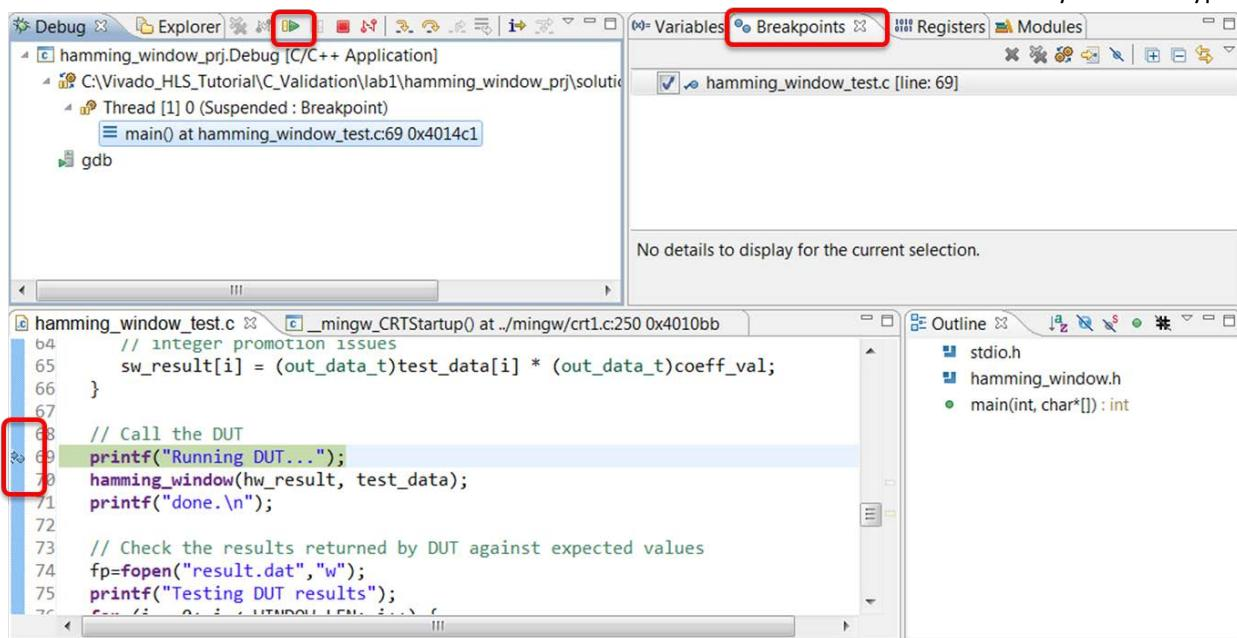

Figure 43 Using Breakpoints
8. Double-Click in the left-hand margin to create a breakpoint (blue dot) as shown in Figure 43.
9. Activate the Breakpoints tab, also shown in Figure 43, to confirm there is a breakpoint set at line 69.
10. Press the Resume button (highlighted in Figure 43) or the F8 key to execute up to the breakpoint.